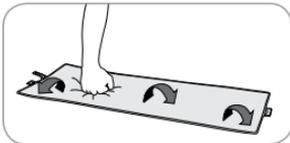
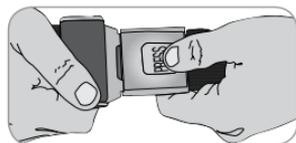

Fig. 22a -Testing over-matress or stretcher sensor pad
Fig. 24-Chair belt sensor
1. Test several places along the entire surface of the sensor by applying and removing pressure to make sure the alarm activates when pressure is removed from the sensor (Figs. 22a, b) or when you unfasten the chair belt sensor (Fig. 24). If the alarm and/or sensor do not function properly, remove the alarm and sensor from service and replace them with a properly functioning alarm and/or sensor. DO NOT use the alarm or sensor if it does not activate each time weight is removed from the sensor, or the chair belt sensor is unfastened.
In addition to steps 1-6 under “FOR SAFE USE IN ALL SENSOR MODES” (page 21), press self-release button to unfasten buckle, or separate hook and loop straps (Fig. 24). Alarm should activate each time you do this.